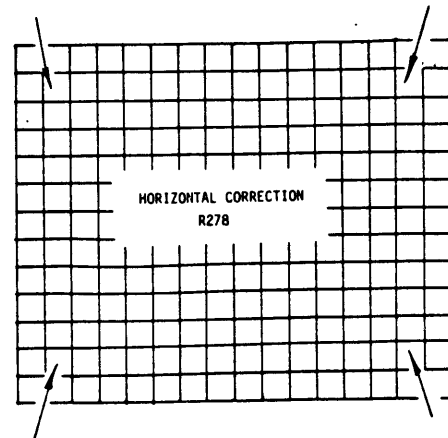

Figure 7. Effects of R278.
- L. Adjust Horizontal Correction (R278) to reduce the bowing of the top and bottom lines of the crosshatch. R278 tends to pull the ends of these lines into the center of the display (see Figure 7). Note that turning R278 too far clockwise will severely distort the image.